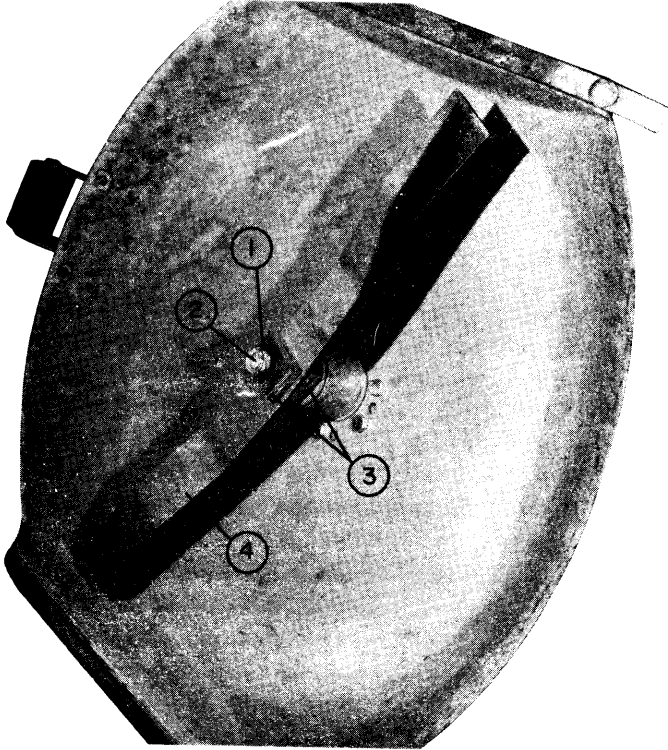

Fig. 4
6. For single blade installation, six 1/4" spacers are required. Install three 1/4" (6.4 mm) spacers on the mower shaft, then the blade and three 1/4" spacers and secure with the nut. Torque the nut to 100 ft. lbs. (135 Nm). See fig. 4. Discard the 1/8" (3.2 mm) spacer. (The 1/8" spacer is for twin blade installation).